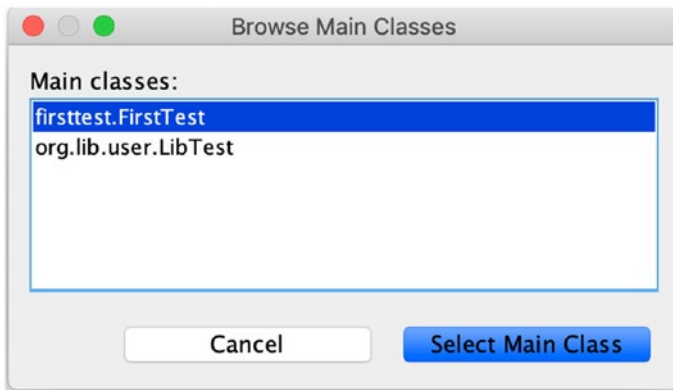

**Figure 5-27.** *NetBeans Browse Main Classes dialog*
First, right-click **FirstTest**, and select the project **Properties**. Under *Categories*, click **Run**. See Figure 5-16. Look at the entry in the field next to *Main Class*. You see that NetBeans is configured to run `FirstTest`. To pick another main class to run, click **Browse** to the right of the *Main Class*. You'll see a pop-up with a list of main classes in the project, with `firsttest.FirstTest` selected. See Figure 5-27.
6. On the right of the *Main Class* line, click **Browse**; you’ll see the *Browse Main Classes* dialog (see Figure 5-27 for an example).